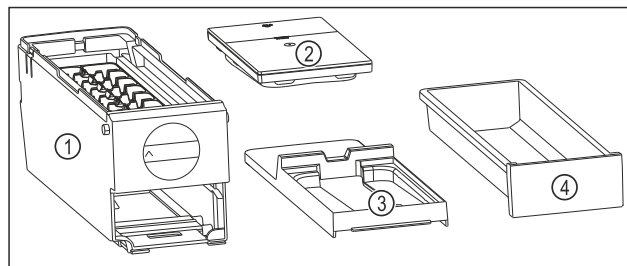

Fig. 147 Components of the EasyTwist-Ice
- ▷ EasyTwist-Ice is dismantled into four parts. (see Fig. 147)
- Only dismantle the EasyTwist-Ice into the components shown. (see Fig. 147)
- Clean the EasyTwist-Ice body Fig. 147 (1) as a whole.